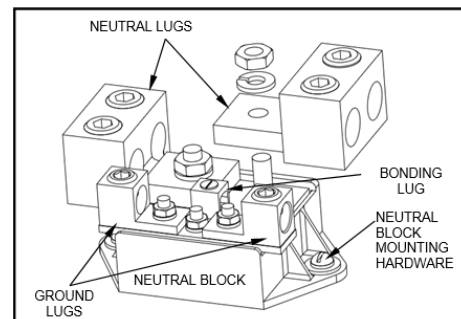

Figure 1 – TNI66C Neutral Kit
This kit is CSA listed for use as an insulated groundable neutral and may be installed in 600Amp type TH3366C and TH3366RC safety switches. Each kit contains the following parts (see Figure 1):
Step 3. Mount line and load lugs to neutral block as shown in Figure 1 using hardware provided. Torque fasteners to 200-250 in-lbs.